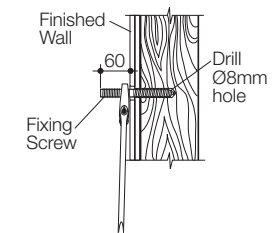

Figure 2
- 3- Insert expansion fasteners into the drilled holes in masonry wall. The Fixing Screws, should be screwed into the wall using the flat section of the Fixing Screw, with a spanner as shown in **Figure 2**.